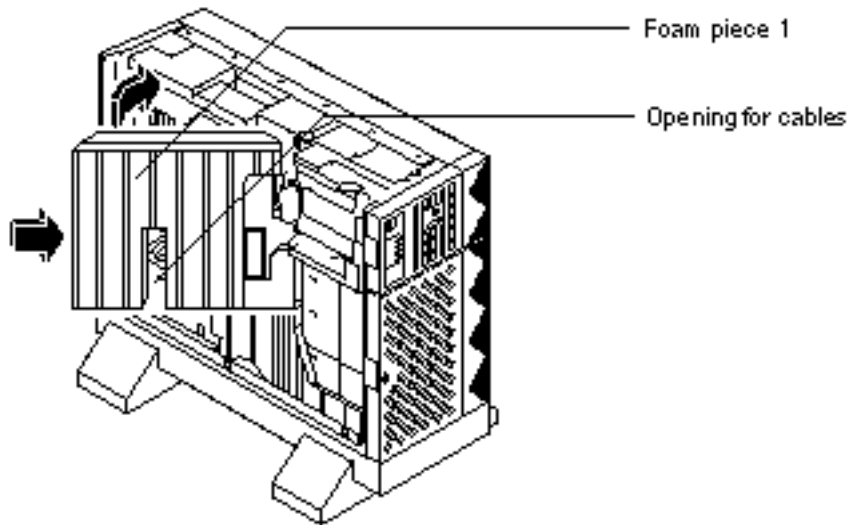

Figure 2-25 Replacing Foam Piece 1
1. Insert the right side of Foam Piece 1 into its proper location (Figure 2-25).
- 3. If necessary, fit the power cables in the opening located in the center of Foam Piece 1 (Figure 2-25).**